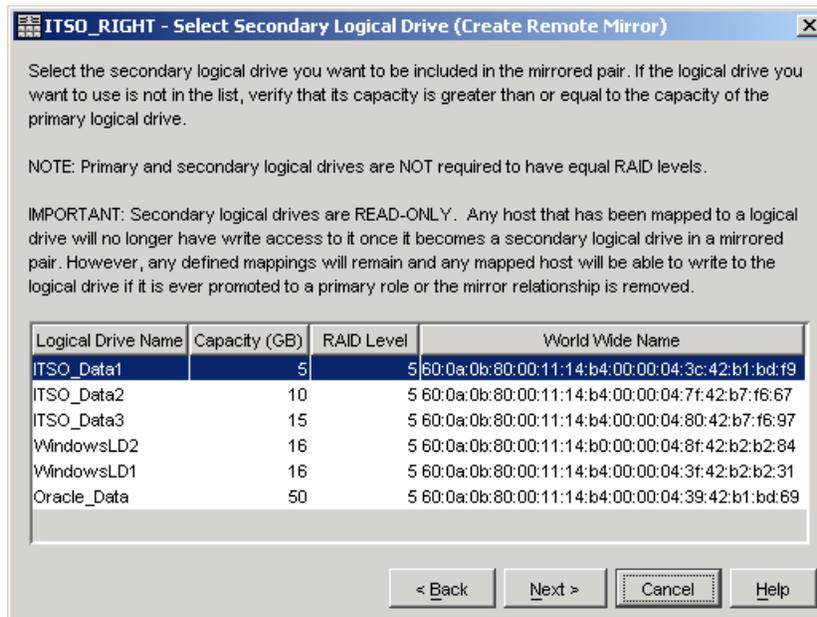

Figure 8-30 Select Secondary Logical Drive (Create Remote Mirror)
4. On the next window displayed, you can select a secondary logical drive for the Remote Mirror pair (Figure 8-30).